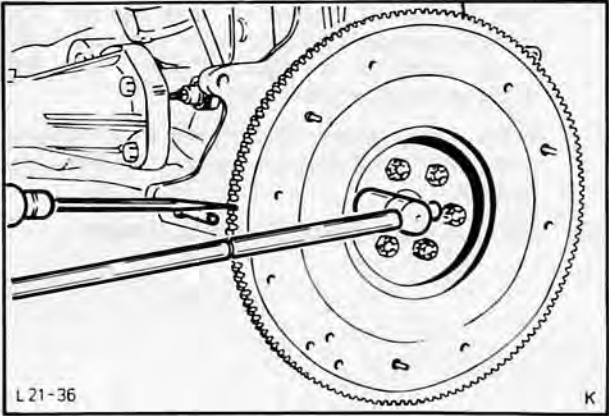

Fig. 87. Detach flywheel
26. Detach flywheel (6 bolts), Fig. 87.